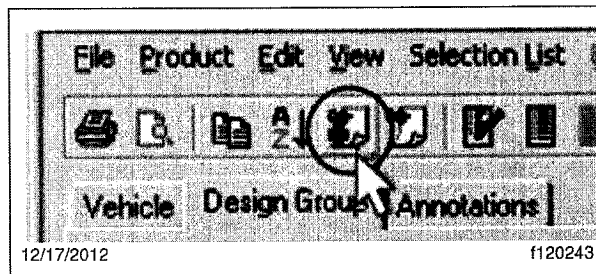

Fig. 19, Add Annotation Icon
2. In the "Design Group" tab, click the Add Annotation icon. See Fig. 19.